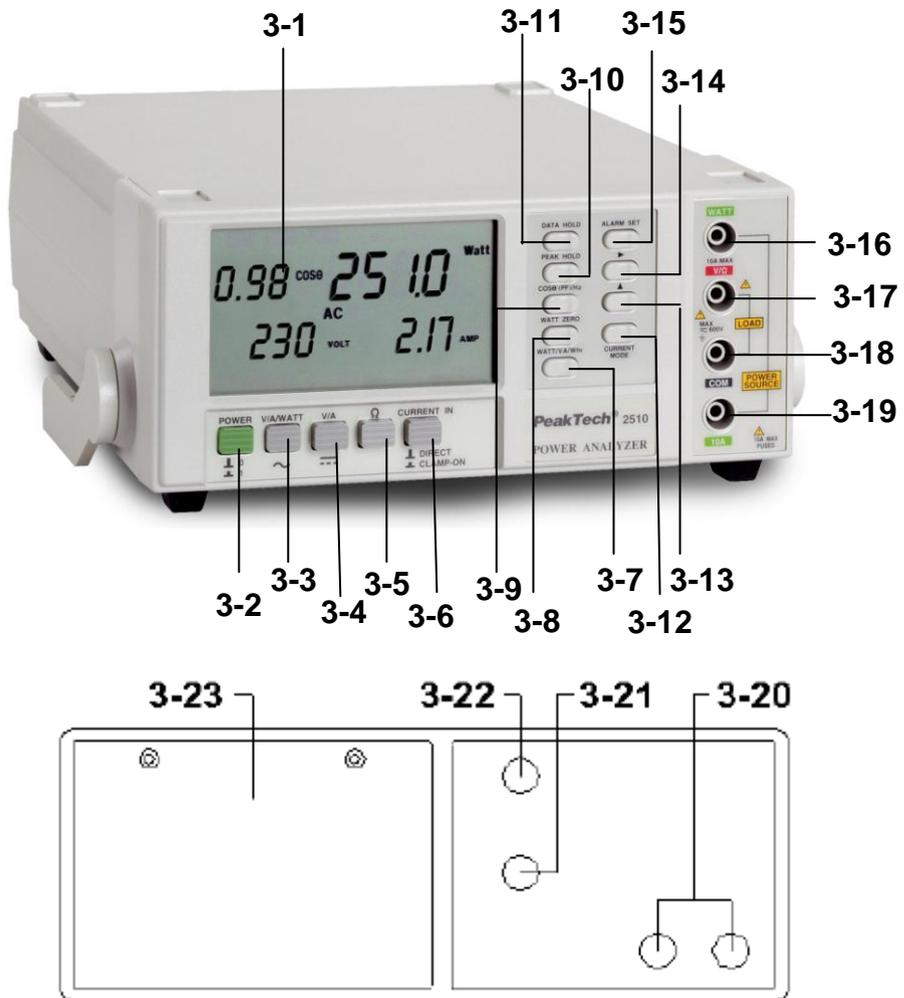

Fig.1
1. Push the "Power Switch" (3-2, Fig. 1) to "ON" position
2. Select the "AC/V/A/Watt-Switch" (3-3, Fig. 1)
3. Select the "Current In"-Switch (3-6, Fig. 1) to the "DIRECT"-position
4. Do not make any wire connection to the input terminals. If the watt display is not zero, push the "Whr-Zero Button" (3-8, Fig. 1) once, then watt display will show "0".
The "LCD Display" (3-1, Fig. 1) will show the Watt, Voltage, Current, PF (Power Factor) at the same time.
8. During the Watt measurement, push the " $\cos\phi$ /PF/Hz Button" (3-9, Fig. 1) once, will show Line Frequency value instead of the PF value.
All the measuring procedures are same as the above "7.1-AC Watt/V/A/PF/Hz" measurement, except you should push the "Watt/VA/Whr Button" (3-7, Fig. 1) once, then the display will show the VA, voltage, current, Hz at the same time.
All the measuring procedures are same as the above "7.1-AC Watt/V/A/PF/Hz" measurement, except you should push the "Watt/VA/Whr Button" (3-7, Fig. 1) twice, then the display will show the Whr value along with the elapsed time.
- \* The display of Whr measurement will stop (hold) when pushing the "Data Hold Button" (3-11, Fig. 1) once. Push the "Data Hold Button" once again for continuing the Whr function.
- \* Press "Whr Zero" button (3 – 8, Fig.1) once will "reset (zero)" the Whr measuring value and make the new measurement again.
1. Push the "Power Switch" (3-2, Fig. 1) to "ON"-position.
2. Select the "AC V/A/Watt Switch" (3-3, Fig. 1).
3. Select the "Current In Select Switch" (3-6, Fig. 1) to the "DIRECT"-position.
- a) Connect red test lead to "V/Ohm Terminal" (3-17, Fig. 1) and black test lead to "COM Terminal" (3-18, Fig. 1)
- a) Connect red test lead to "Current (10 A) Terminal" (3-19, Fig 1) and black test lead to "COM Terminal" (3-18, Fig. 1)
2. Select the "DC V/A Switch" (3-4, Fig. 1)
3. Select the "Current In Select Switch" (3-6, Fig. 1) to the "DIRECT" position.
- a) Connect red test lead to "V/OHM Terminal" (3-17, Fig. 1) and black test lead to "COM Terminal" (3-18, Fig. 1)